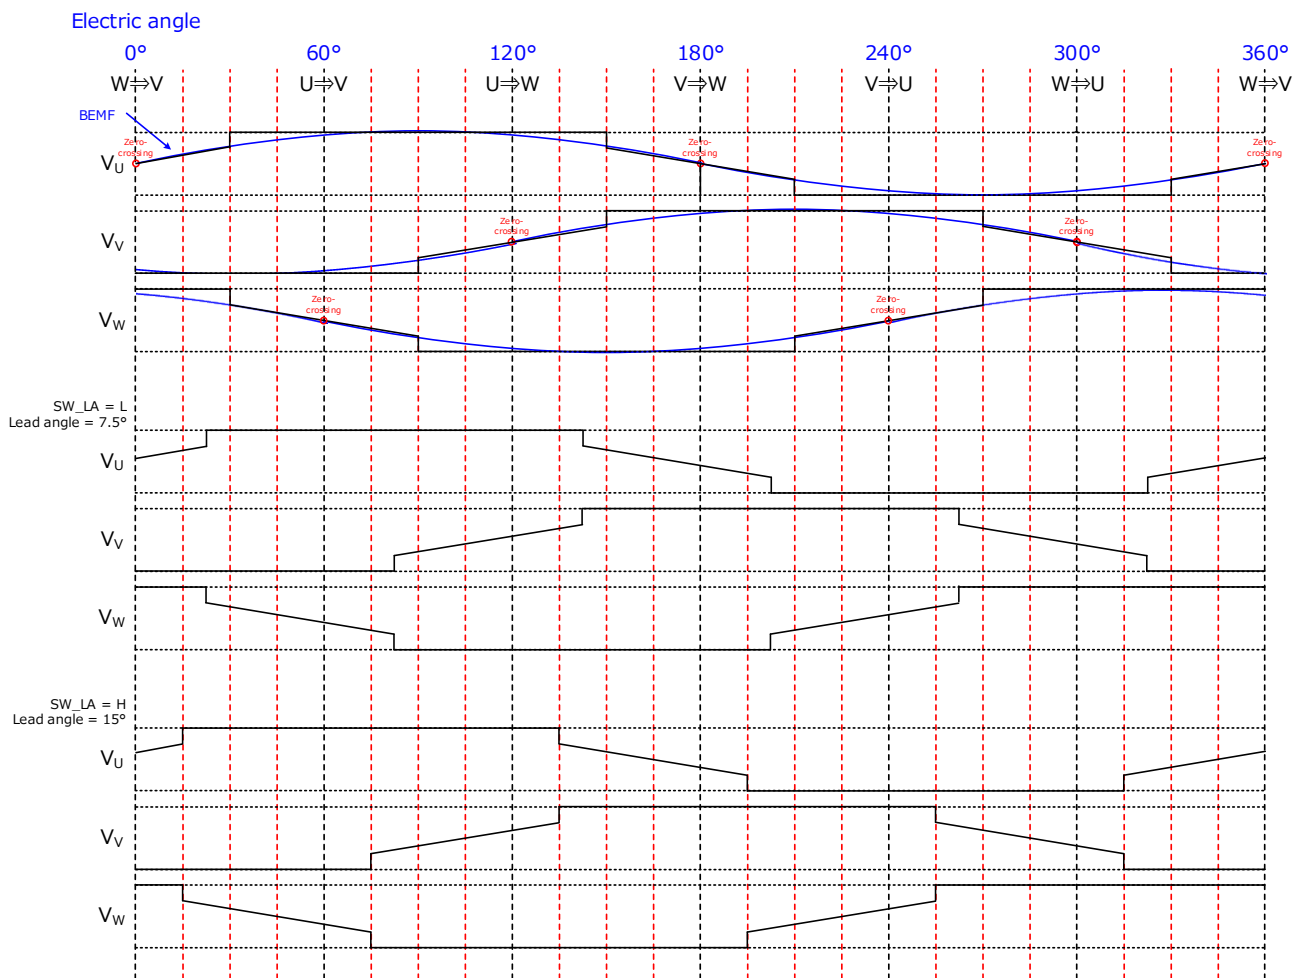

Fig.7.2.1 The timing of 120 degrees sensorless operation
- Sensorless start up sequence initiate by DC excitation to set fixed position of the motor during the setting time period and after that setting time is up, forced commutation is started by setting frequency. During forced commutation, zero cross point is determined by motor position detected by motor EMF (electromotive force), then TB9062FNG sensorless operation shall commence. Refer to fig. 7.2.1 for the timing chart of operation.